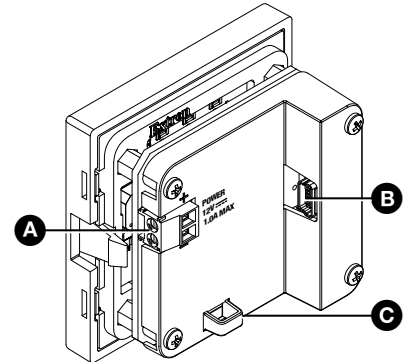

Figure 2. RCP 101 Rear Panel (Shown without Wallplate)
The back panel features of the RCP 101 EU and RCP 101 MK are identical (see figure 2).
3. Remove the power cable (figure 2, A, on page 2) and the USB cable (B). If necessary, cut the zip tie securing the USB cable to the cable anchor (C).